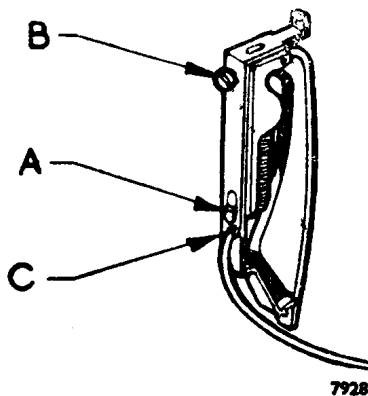

Fig. N.35
Assemble the indicator to the fixing plate. This is done by inserting the tag on the indicator body through the slot marked (A) in Fig. N.35 and securing these two parts by means of the cheese-headed screw and shakeproof washer (B). Thread the wire through the hole (C) and connect it to its terminal.